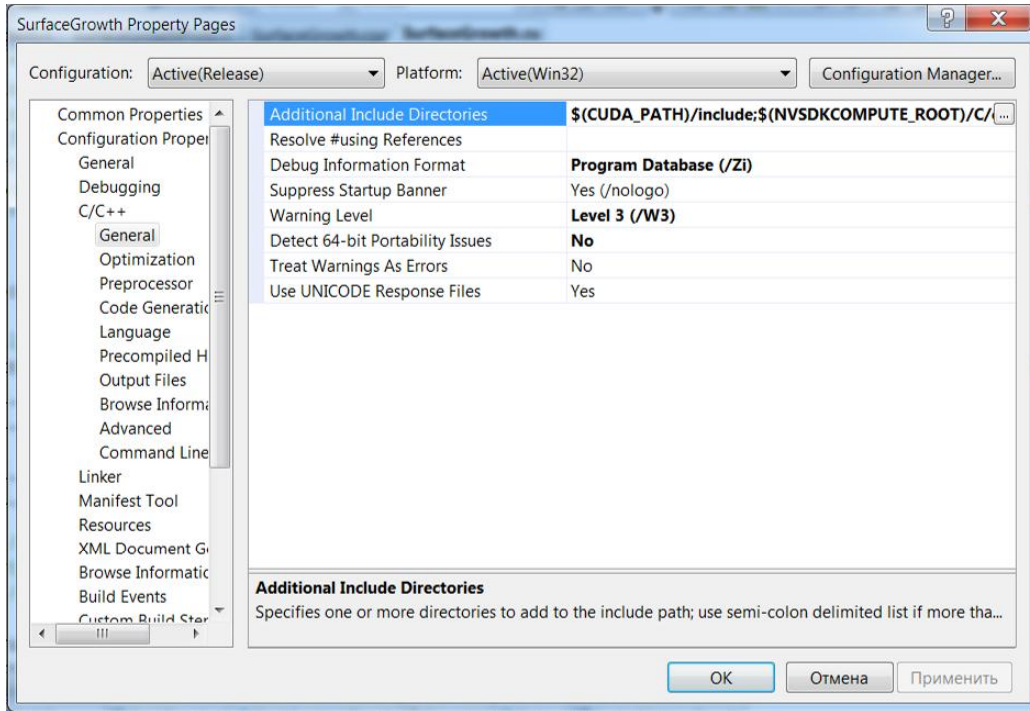

Figure 2: Setting additional include directories in MS Visual Studio 2008.
3. Specify `$(CUDA_PATH)/include;$(NVSDKCOMPUTE_ROOT)/C /common/inc;$(NVSDKCOMPUTE_ROOT)/C /common/inc/GL` in “Additional Include Directories” field (see Fig. 2). It is very important not to use quotation marks when specifying the paths, as the compiler throws errors if the quotation marks are present.
9. Specify `$(NVSDKCOMPUTE_ROOT)/C/common/inc/GL; $(NVSDKCOMPUTE_ROOT)/C/common/inc;$(CUDA_PATH)/include` in “Additional Include Directories” field (see Fig. 2). It is very important not to use quotation marks when specifying the paths, as the compiler throws errors if the quotation marks are present.
11. Specify sm_12 in GPU Architecture (1) field.